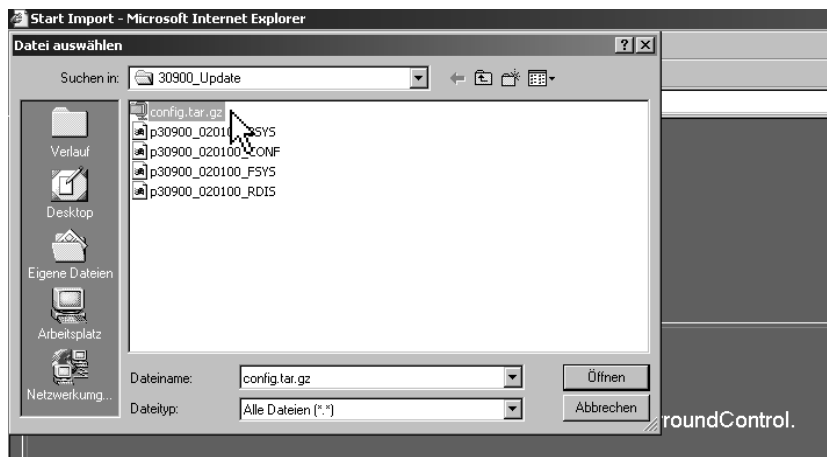

Fig. 5-20: The import file selection dialog box (config.tar.gz)
4. Choose the folder (i. e.: C:\30900\_update) with the user settings data file and click the file config.tar.gz (see Fig. 5-20).